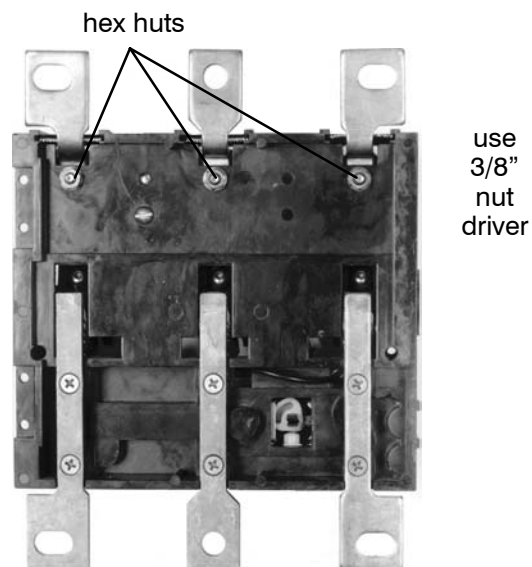

Figure 10. Stationary contact nuts.
1. Remove the stationary contact plates by removing the nuts on the back of the base. Use a 3/8" nut-driver counterclockwise. See Figure 10.
6. Reattach the operator drive assembly so that the cam is between the control contacts. A window is provided in the back of the switch for inspection. Tighten the screws to 24–28 inch-pounds. See Figures 10 and 11.